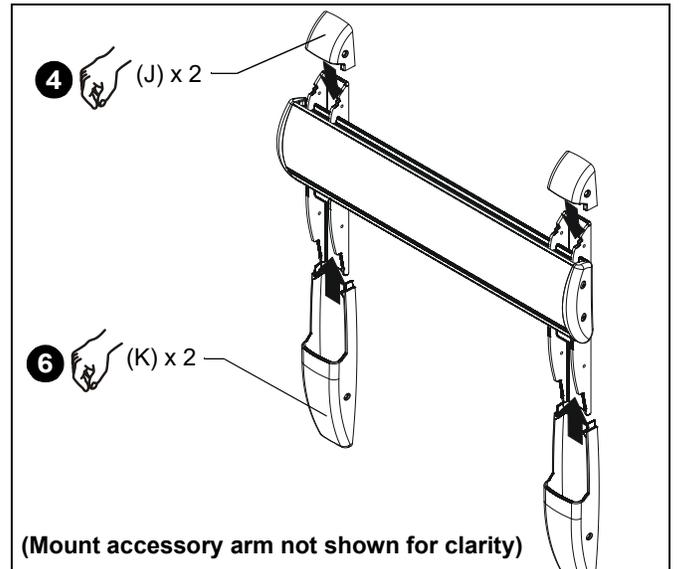

Figure 58
4. Place wall bracket top covers (J) over top of each mounting bracket arm. (See Figure 58)
6. Place wall bracket bottom cover (K) over bottom of one wall bracket arm. (See Figure 58)